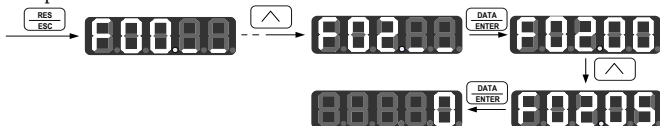

Figure 4-4 Procedures for Viewing Parameter
- Select corresponding function code and view its parameter via selecting main menu and sub-menu. For instance: follow the operation procedures shown in Figure 4-4 to view parameter of F02.05.